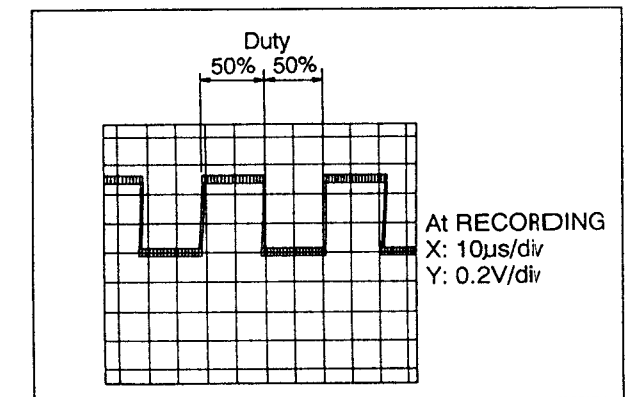

Fig. 3
2. Load a **DCC blank tape (RFKZ0033)** into the unit under test and put the unit in **REC mode**. Verify that a continuous **47 Hz square wave with a 50 percent duty ratio** is observed on the scope (see Fig. 3). This is the normal result. Also verify that the same waveform is observed when a prerecorded ACC tape is played.